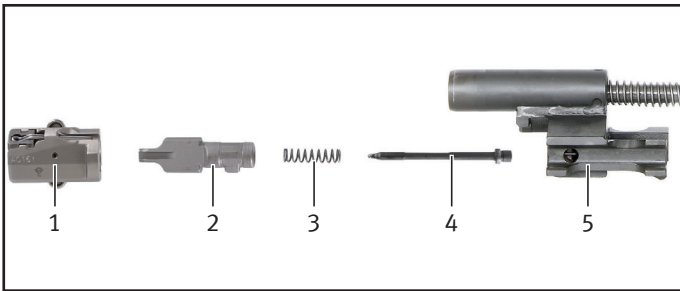
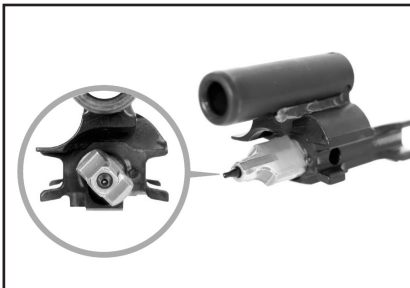

Fig. 39 – Assemble bolt group
Fig. 40 – Assembly position for locking piece
1. Push pressure spring for firing pin onto firing pin (Fig. 39).
NOTICE Observe assembly position of locking piece (Fig. 40) in relation to the interface of the bolt. The smooth side of the locking piece should be oriented toward the bottom of the bolt. (Fig. 39)
4. Turn locking piece counter-clockwise a quarter turn until assembly position has been reached (Fig. 40).